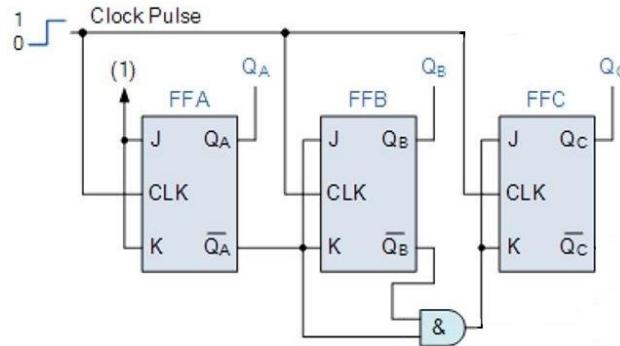

Fig. 5.19
we can easily construct a 3-bit Synchronous Down Counter by connecting the AND gate to the Q output of the flip-flops as shown in Fig. 5.19. Here the counter starts with all of its outputs HIGH (111) and it counts down on the application of each clock pulse to zero, (000) before repeating again.